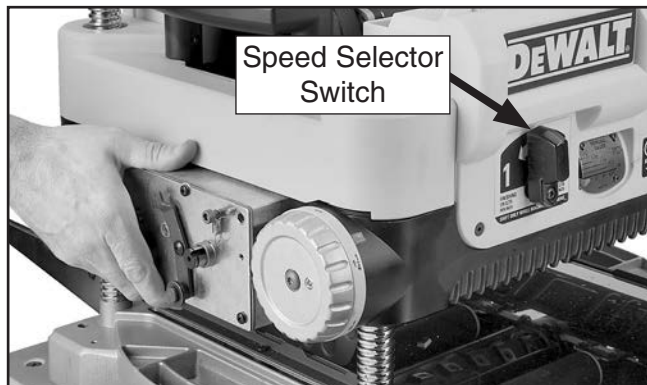

Figure 10. Supporting gearbox while turning speed selector switch.
25. While supporting gearbox, turn speed selector switch on front panel clockwise to release (see **Figure 10**).